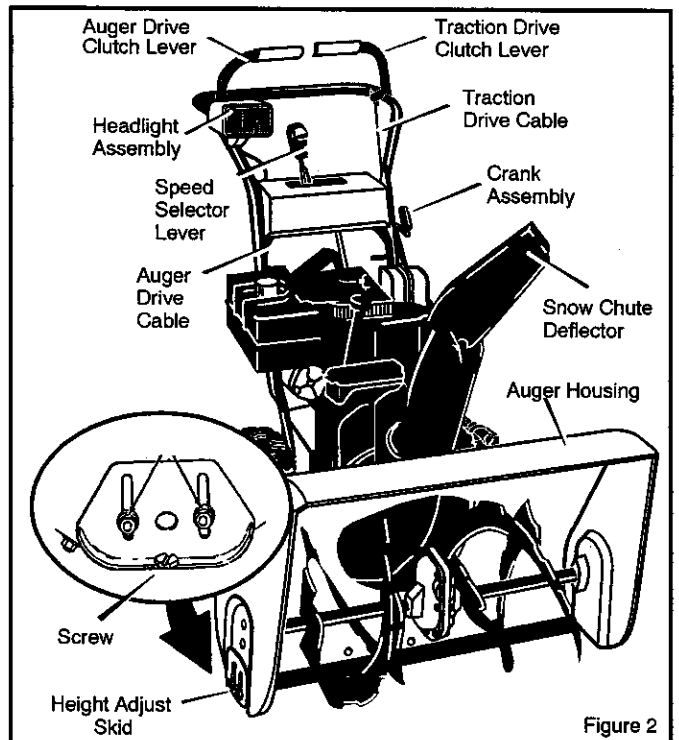

Figure 2
Figure 2 shows the snow blower completely assembled.
6. For shipping purposes, the height adjust skids are attached to the pallet. Remove the screw that secures each height adjust skid to the pallet. (See Figure 2).